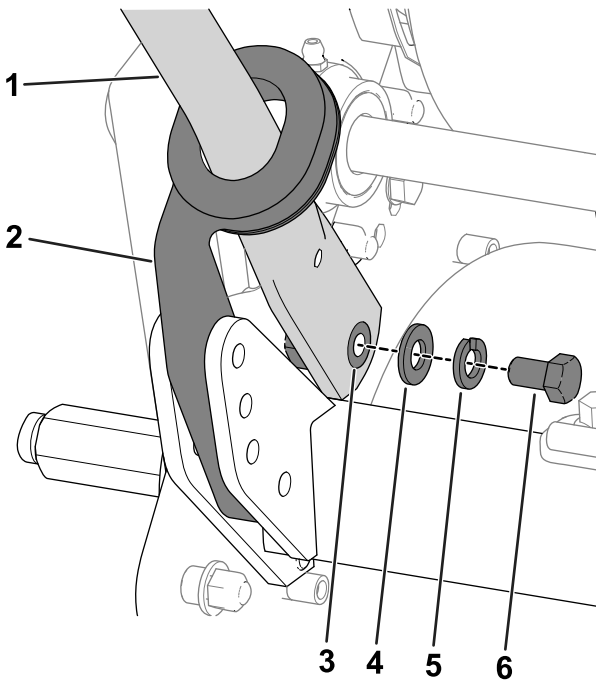

Figure 4
5. Secure the handle to the mounting pins with the bolts (3/8 inch), washers, and lock washers that you previously removed (Figure 4).
4. Squeeze the handle ends inward and install them on the mounting pins (Figure 4).